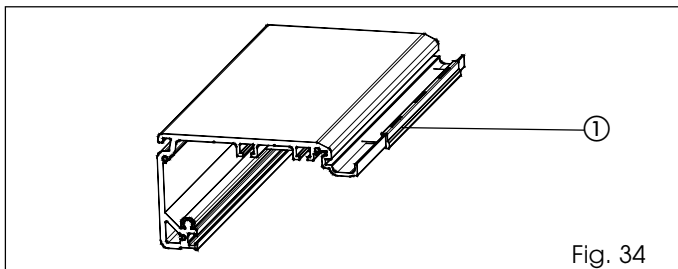

Fig. 34
• Fit three spacers (fig. 34 ref. ①) on the outer edge of the support profile, positioning them at the ends and at the centre.